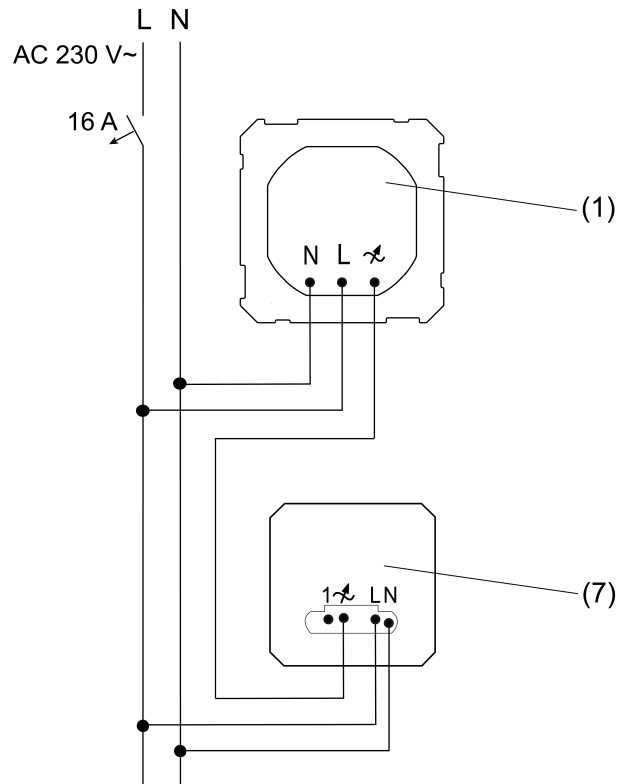
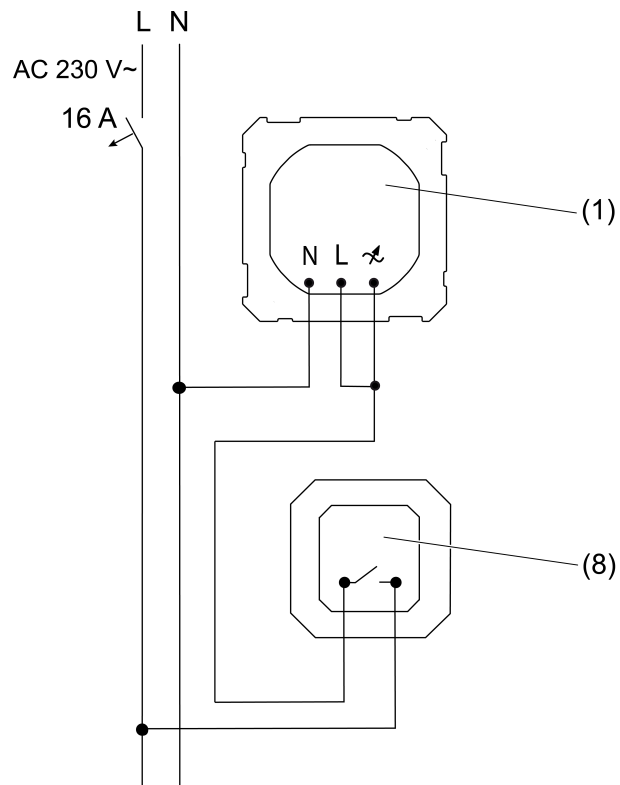

Figure 3: For dimmable light attachments: Connection diagram for LED dimmer 3-wire (7)
Figure 4: For non-dimmable light attachments: Connection diagram for switch insert (8)
- LED dimmer with 3-wire connection (7) (Figure 3)
- Connect the flush-mounted Plug & Light insert (1) for non-dimmable light attachments according to the following connection diagram:
- Switch insert (8) (Figure 4)